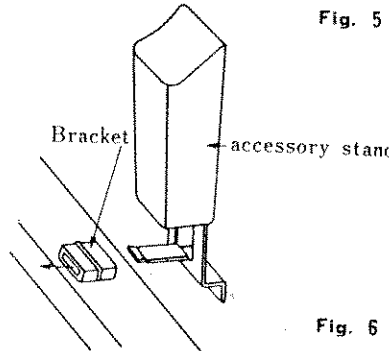

Fig. 6
6. Set it up on any one of the 3 row counter brackets which is free. (See Fig.6)